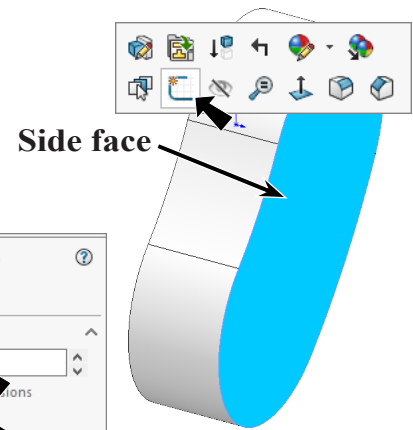

Fig. 12
Step 1. Click the **side face** and click **Sketch**  on the context toolbar, **Fig. 12**.